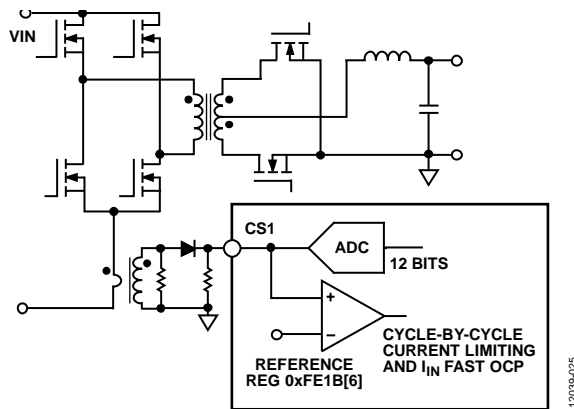

Figure 23. Current Sense 1 (CS1) Operation
Current Sense 1 (CS1) is typically used for the monitoring and protection of the primary side current, which is commonly sensed using a current transformer (CT). The input signal at the CS1 pin is fed into an ADC for current monitoring. The range of the ADC is 0 V to 1.60 V. The input signal is also fed into an analog comparator for cycle-by-cycle current limiting and I_{IN} overcurrent fast protection, with a reference of 0.25 V or 1.2 V set by Register 0xFE1B[6]. The typical configuration for the CS1 current sense is shown in Figure 23.